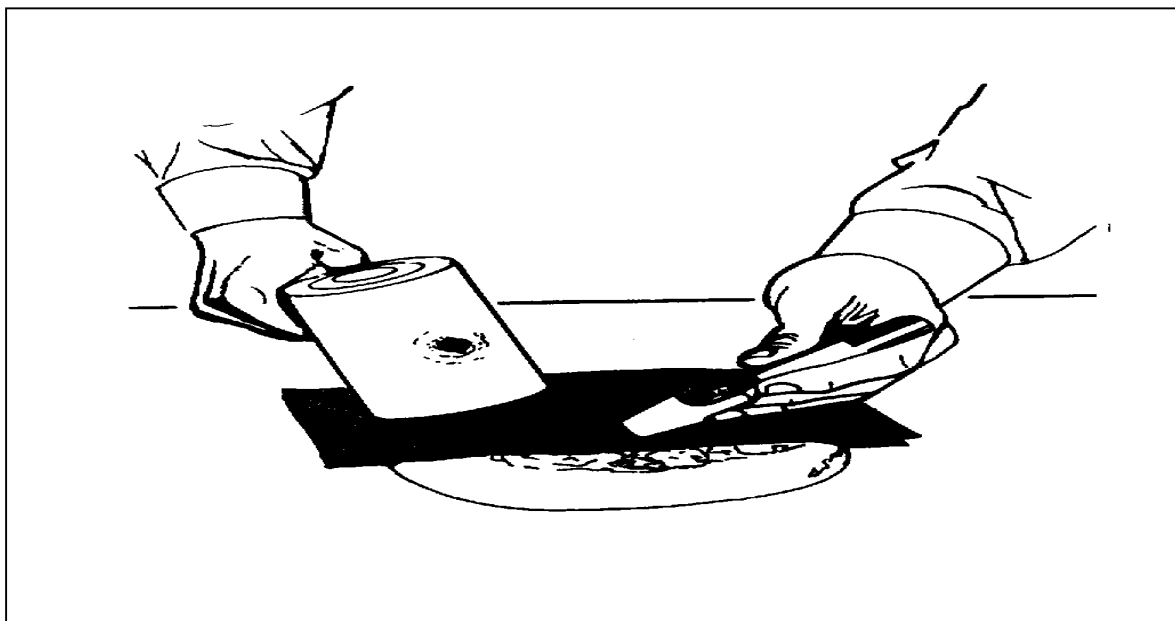
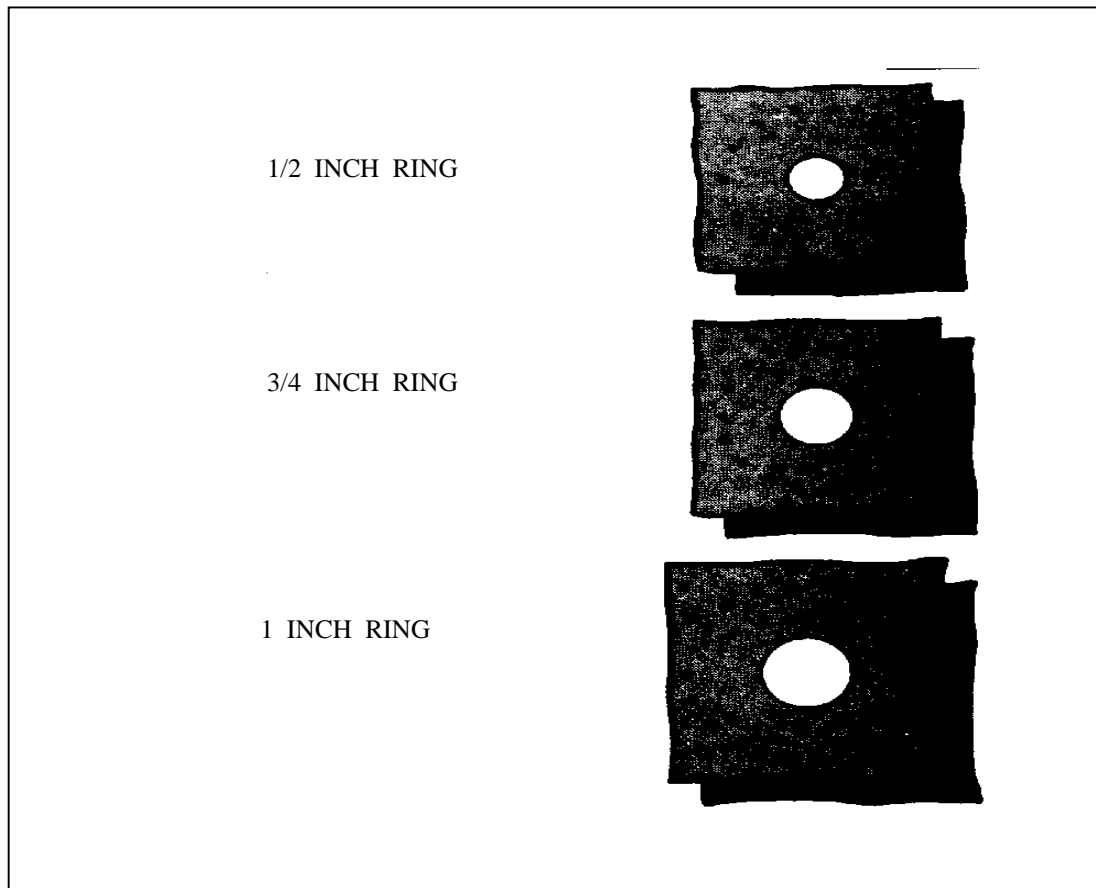

Figure 12-4. Cutting a grommet hole
Figure 12-5. Series of equally spaced holes
(1) If the old grommet hole will be used, obtain a rawhide mallet, sailmaker's needle, thread, wax, and an iron ring with an inside diameter larger than that of the hole. Also obtain a fid (a tapered, wooden or metal pin).
(2) If a new grommet hole will be cut, obtain the tools listed above, a heavy woodblock, and a size 5 cutting punch for a 1/2- or 3/4-inch ring or a size 6 cutting punch for a 1-inch ring. Position the canvas faceup on the end-grain surface of the woodblock, and cut a grommet hole with the appropriate cutting punch (Figure 12-4).
(3) Center the ring over the grommet hole.
(4) To make stitching easier, use the sailmaker's needle to make a series of equally spaced holes about 1/8 inch from the outside edge of the metal ring (Figure 12-5). Do not make the holes any larger than 1/16 inch across.